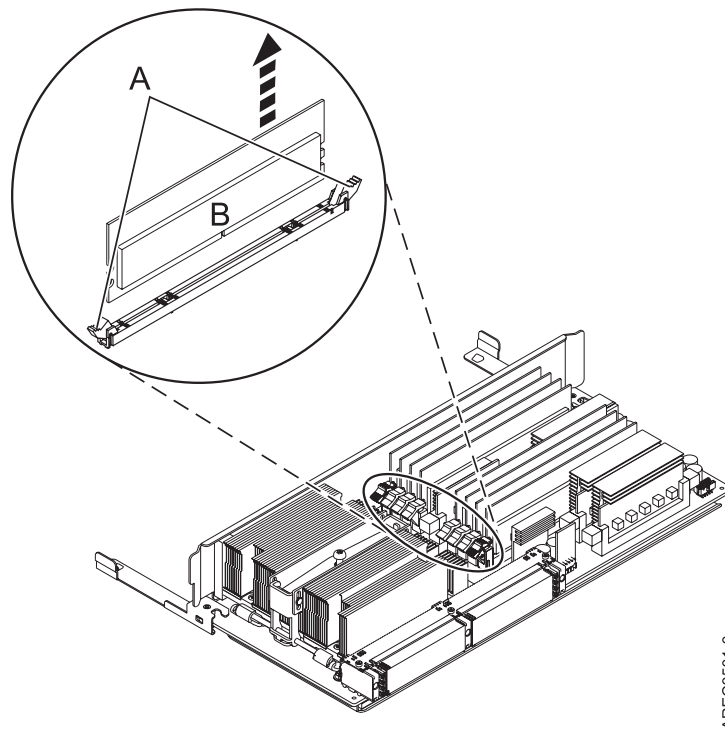

Figure 28. Removing a memory module
10. Unlock the memory module by pushing the locking tabs **(A)** out and then down, as shown in Figure 28. The lever action of the tabs forces the memory module out of the connector.